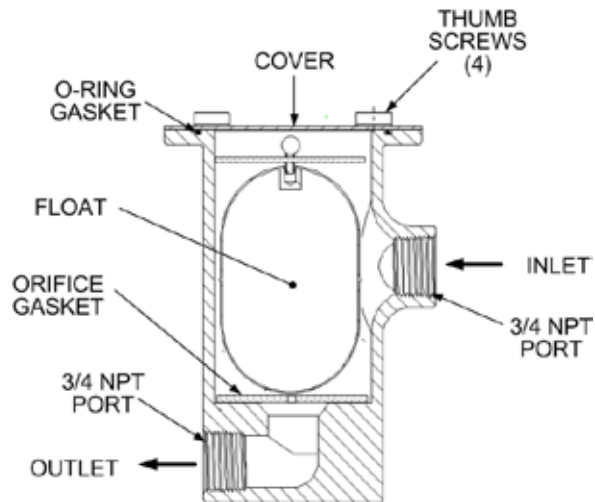

Figure 6-9. External Condensate Trap
2. Remove the connections on the inlet and outlet sides of the condensate trap shown in Figure 6-9.
3. Loosen the four (4) thumbscrews securing the cover on the condensate trap. Remove the cover.